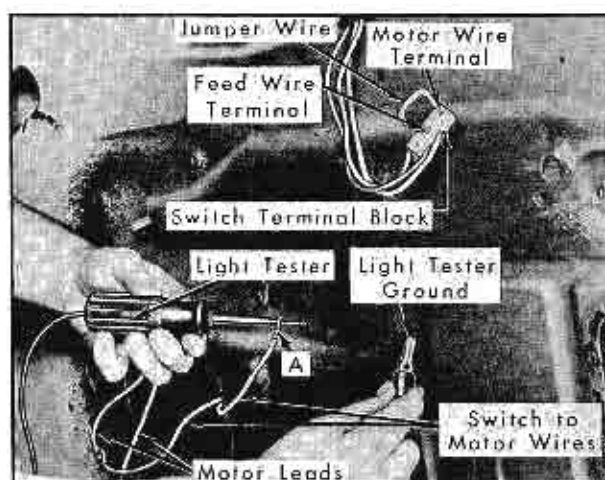

Fig. 3-93 Check Window Switch Lead Wire
2. Disconnect the end of the motor wire "A", Fig. 3-93, from the motor lead and connect wire "A" to the light tester.